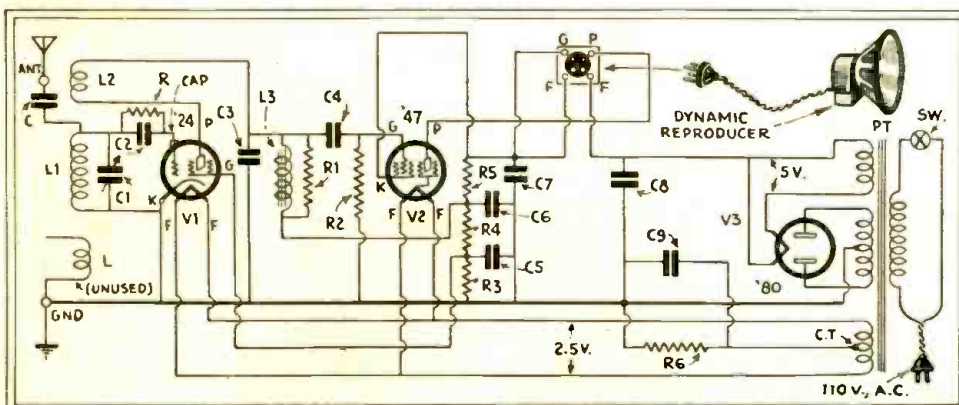

Fig. 1
**I**N the previous issue of this magazine, the constructional details of the "Radio-Craft Pentode Portable" appeared (Page 88, August, 1931); this receiver, with but two tubes and light, self-contained batteries and speaker, gives a moderate loud speaker output. Here we present the promised instructions for building a two-tube portable, of similar size, but designed for operation from the 110-volt A.C. light socket, and giving volume sufficient for the largest room. As shown in the schematic diagram (Fig. 1), a dynamic reproducer of special light-weight design and a high-voltage supply, supplying rectified current through a standard '80 tube, make possible an output unapproachable with a similar weight devoted to batteries.
The circuit (Fig. 1) consists essentially of a regenerative screen-grid detector, using a type '24 tube, coupled to a type '47 pentode. A type '80 rectifier, delivering D.C. plate voltages, is operated from the power transformer; the latter also furnishing alternating filament current for the two receiving tubes and the rectifier.
main diagram (Fig. 1) and is used in the set shown in the various illustrations.